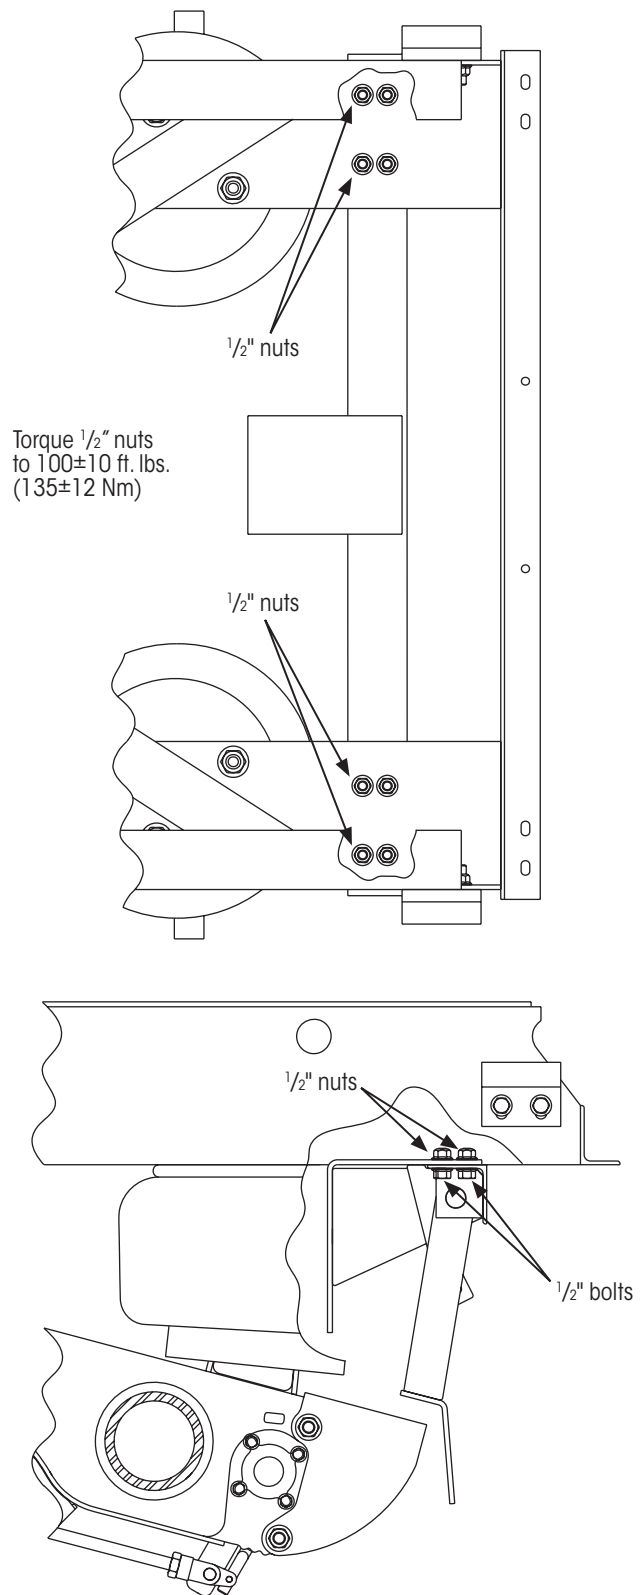

Figure 29: Arm assembly attaching details
1. **Bolt** SURELOK support arm assembly to the underside of the slider box with eight 1/2-inch nuts and bolts provided in the installation kit (Figure 29). **Install** the bolts so hex heads are on the SURELOK mounting bracket and the nuts are on the slider box flange as shown.